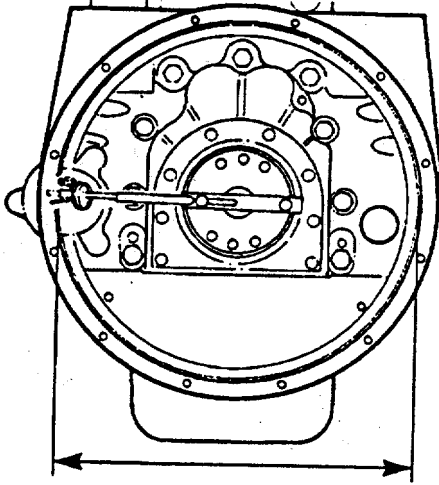

FIGURE 3-72. Housing Bore Diameter
- (i) The maximum allowable TIR depends on the diameter of the housing bore (Figure 3-72).